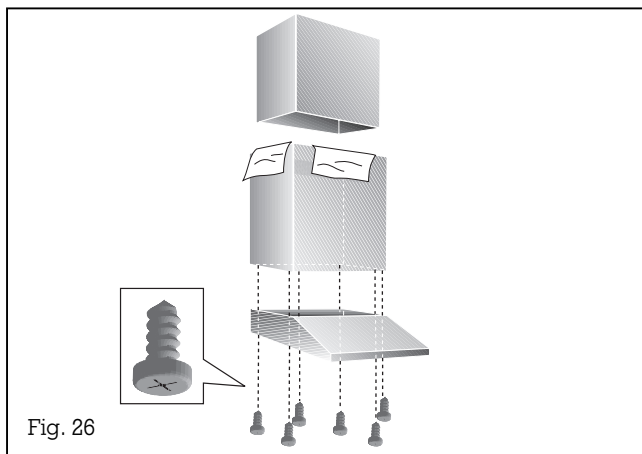

Fig. 26
- Join the chimney shoe with the chimney base using the 6 screws (3.5 x 9.5 mm) (Fig. 26).